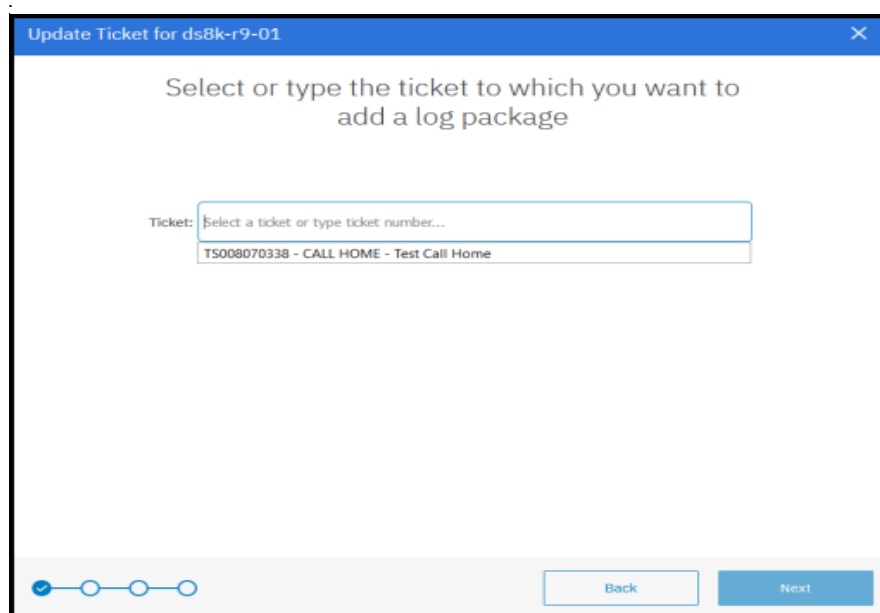

Figure 12-28 IBM Storage Insights: Ticket number
3. In the window that is shown in Figure 12-28, you can either select one of the open tickets for this machine or type in the ticket number manually.